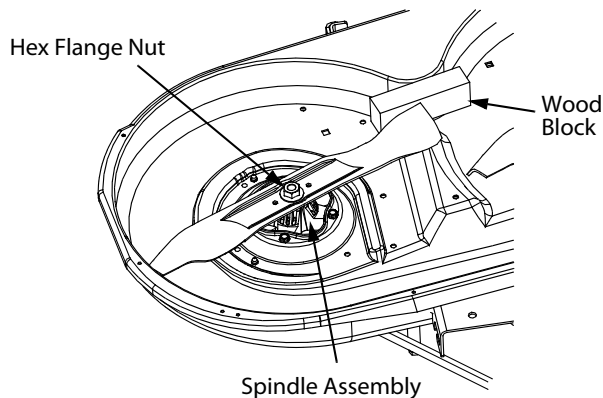

Figure 7-7
- Use a 15/16 inch wrench to hold the hex nut on top of the spindle assembly when loosening the hex nut securing the blade. A block of wood may be placed between the deck housing and the cutting edge of the blade to help in breaking loose the hex nut securing the blade. See Figure 7-7.